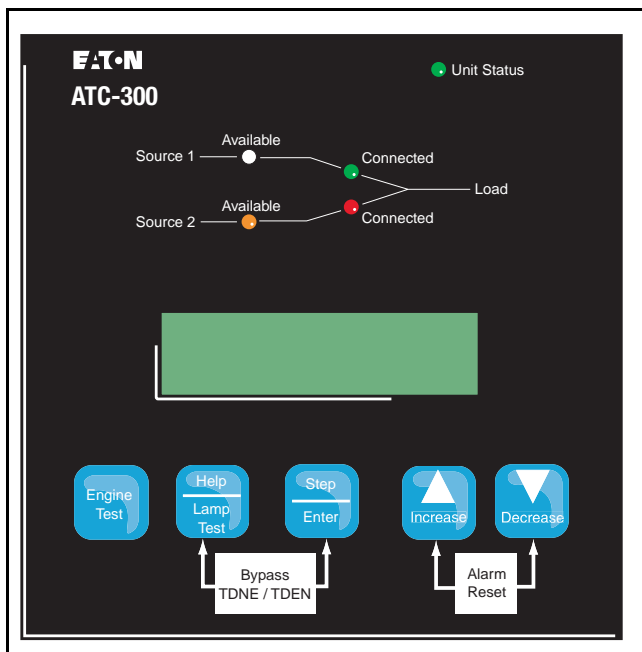

Figure 46. ATC-300 Logic.
**Step 9:** Initiate a Load Test from the front panel of the ATC-300 (Figure 46). This may be done by setting the engine test setpoint to: